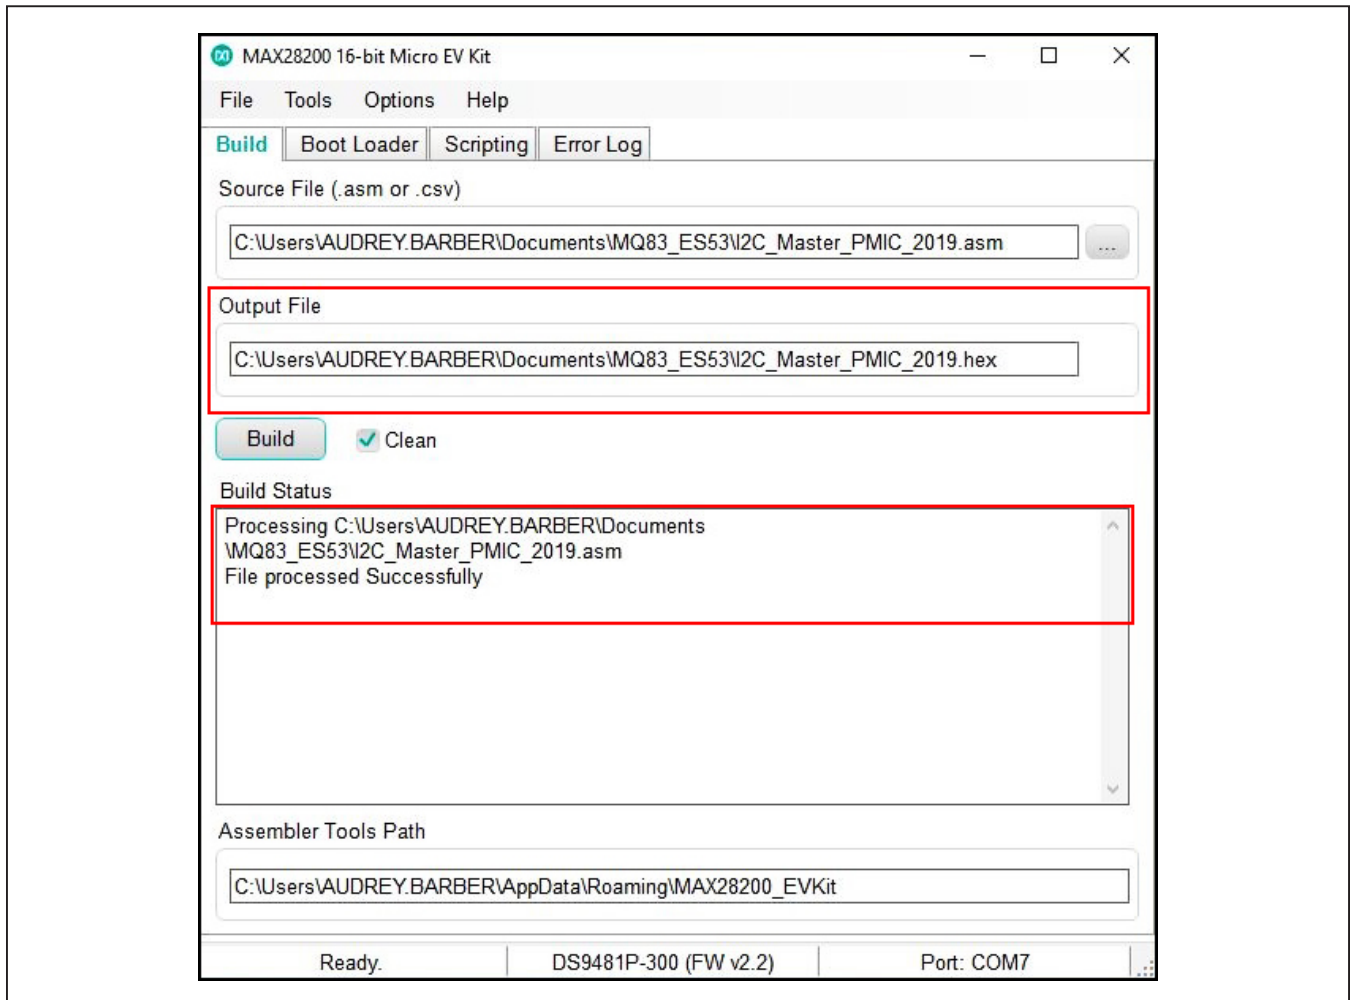

Figure 14. Assembly File Successfully Converted into .hex File
- 4) This action produces a successful completion message (Figure 14) and a hex file of the same name (shown in the **Output File** text box) appears in the directory with the .hex file extension.